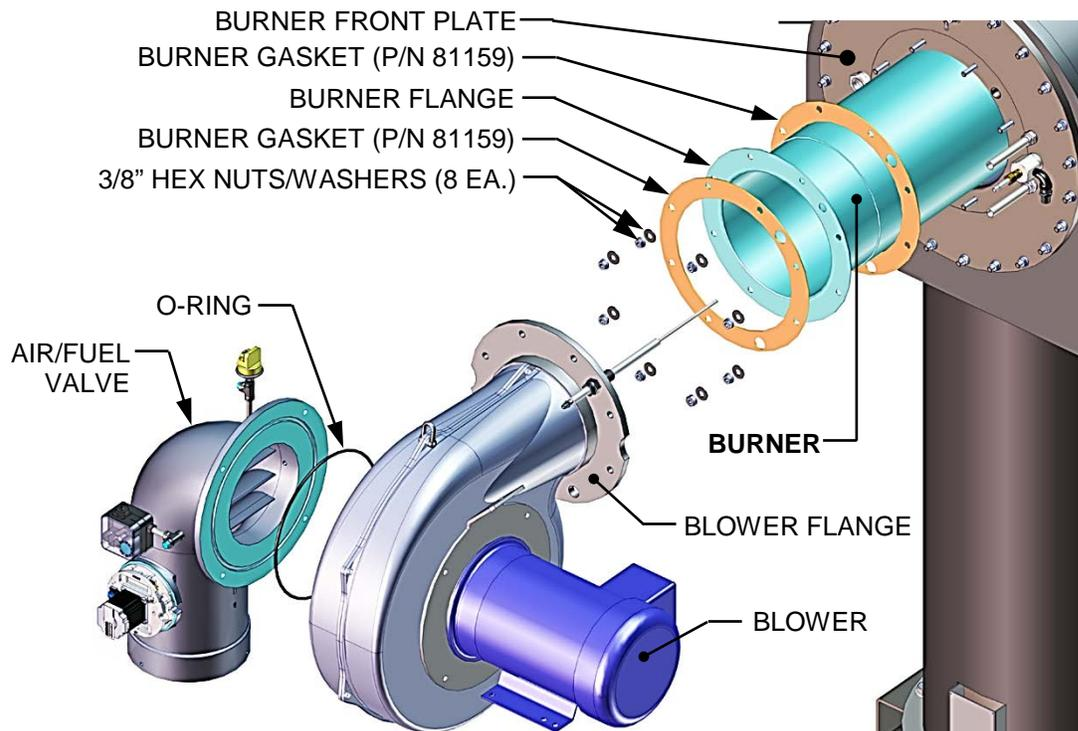

Figure 7-5: Burner Assembly – Exploded View
19. Remove the Blower from the Burner by pulling outward. Be careful not to allow it to swing and damage other equipment components. Refer to the exploded view in Figure 7-5.
23. Remove and replace the two (2) Burner Gaskets (see Figure 7-5) and clean the gasket surface on the burner front plate.
24. To reassemble, begin with the Burner assembly and reinstall all the components in the reverse order that they were removed. The Burner may have a nut installed at the base position to keep the Burner level while installing the Blower (Figure 7-5).